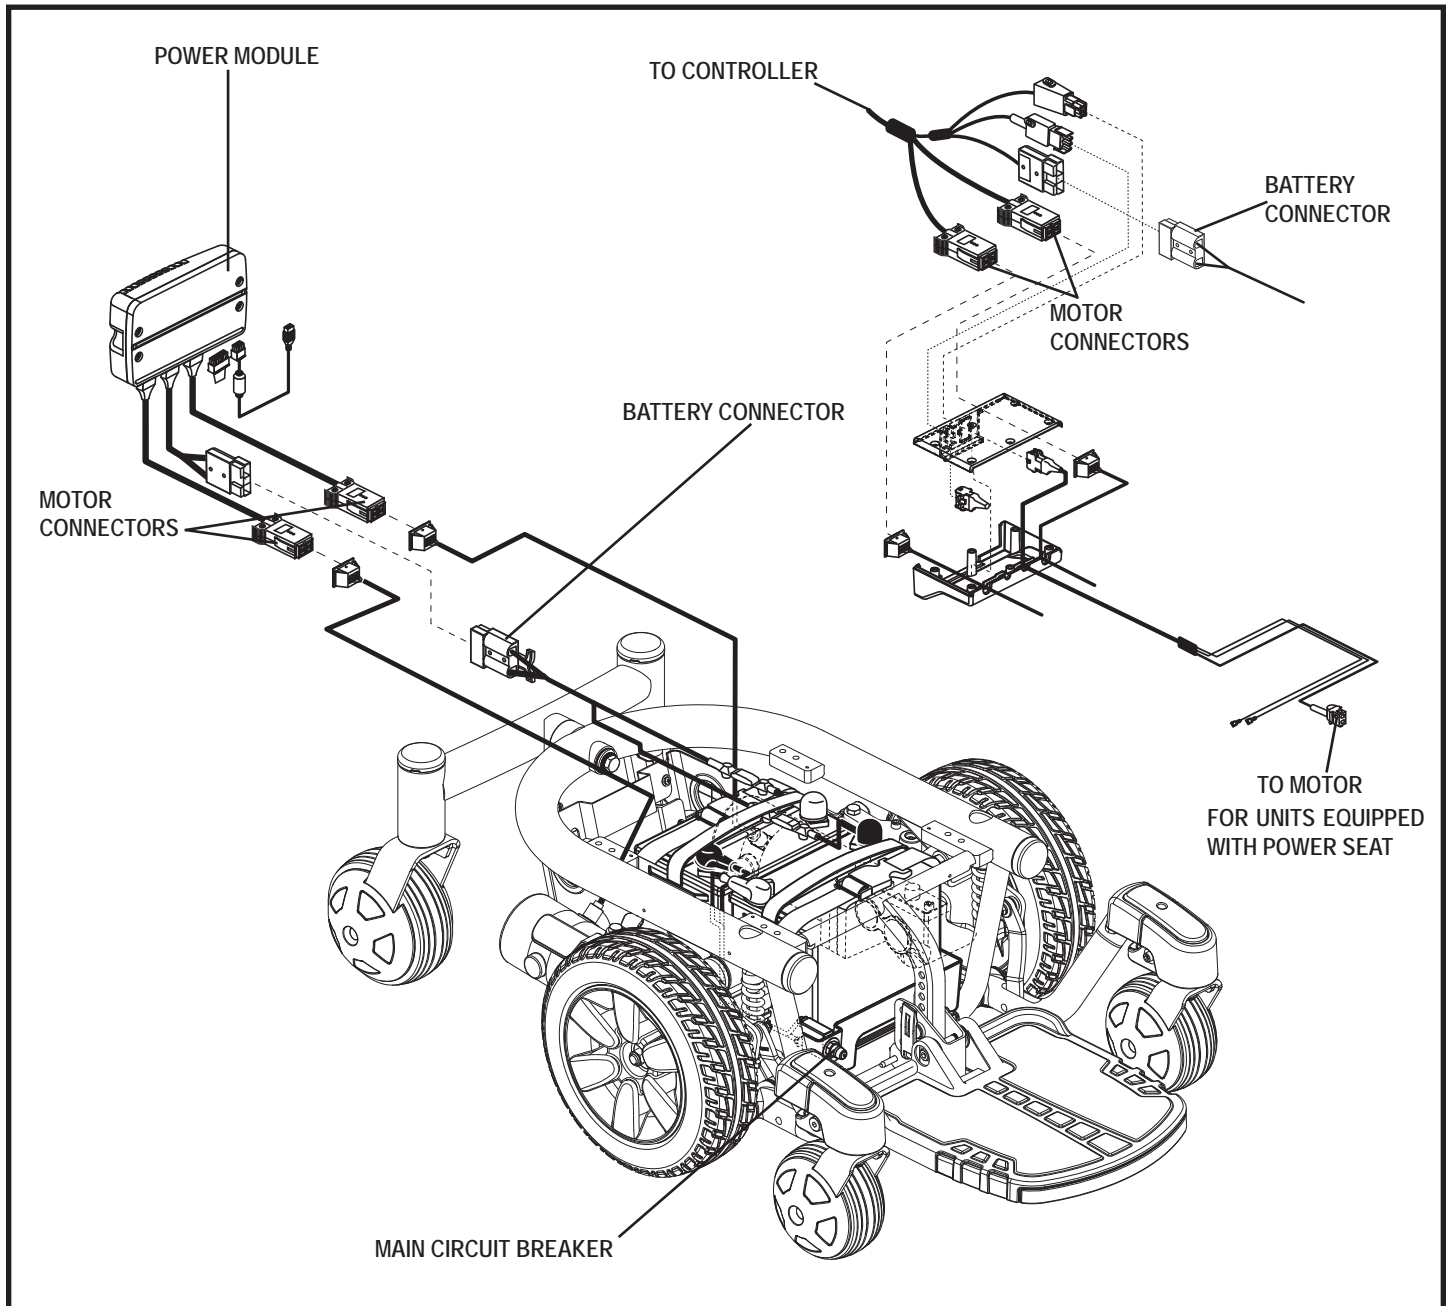

Figure 3. J6 Electrical Components
The electrical components are located inside the power base. The main circuit breaker is located on the front of the battery tray. The controller connector(s) are located inside the power base. **See figure 3.**
6. Plug the controller connector into the power base. **See figure 3.**
4. Disconnect the controller connector(s) from the power base. **See figure 3.**